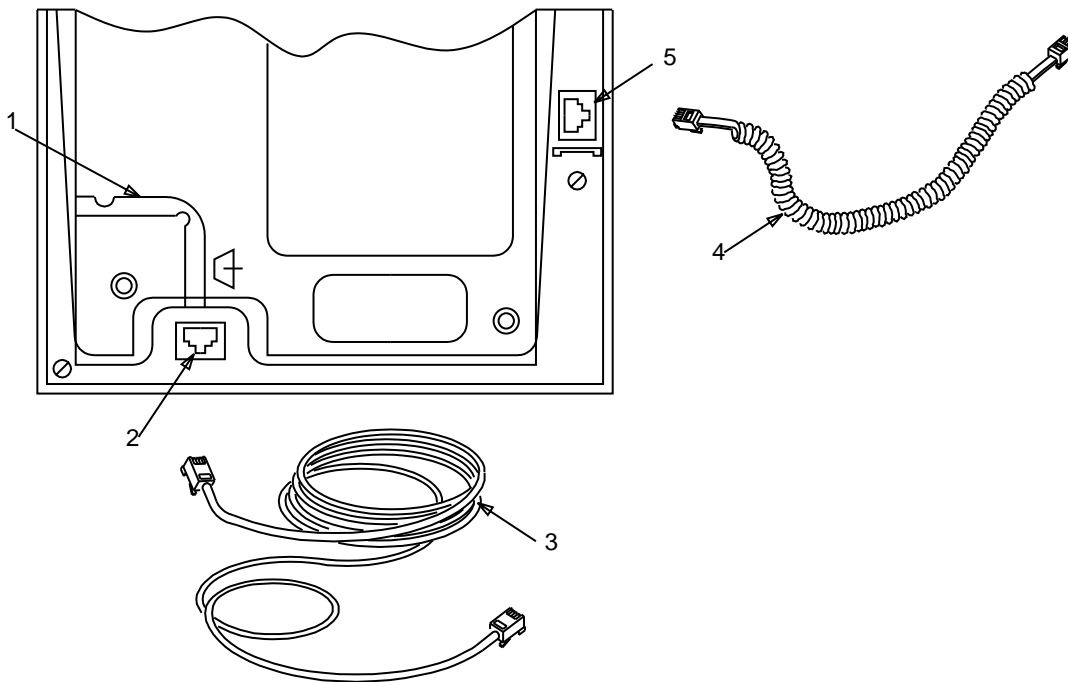

FIGURE 6-4. Bottom of the 7505, 7506, 7507 Terminals
2. If you are installing an AT&T S101A or S201A Speakerphone or an AT&T 500A Headset Adapter, remove the cover over the Adjunct jack (if present), then plug the **D8AC adjunct cord** (3 on Figure 6-4) into the **Adjunct jack** (2). Press the cord into the **adjunct cord routing channel** (1) and gently pull the slack from the cord to the side of the terminal.
3. Plug the **handset cord** (4) into the **Handset cord jack** (5).